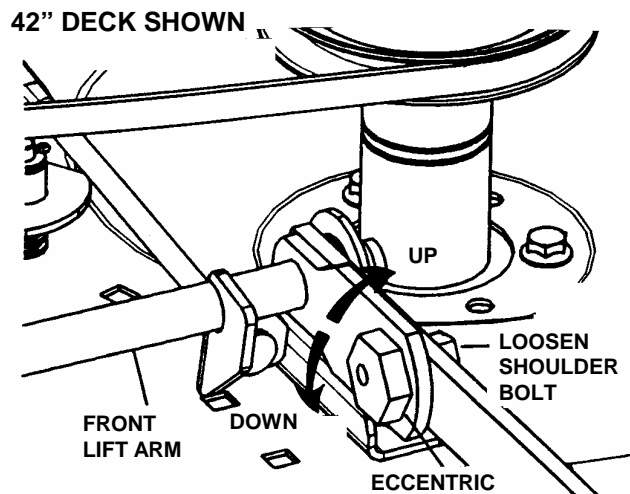

FIGURE 4.8
- g. Turn eccentric "UP" or "DOWN" as required until blade tips are within $1/8"$ of the same distance from the floor. See Figure 4.8.